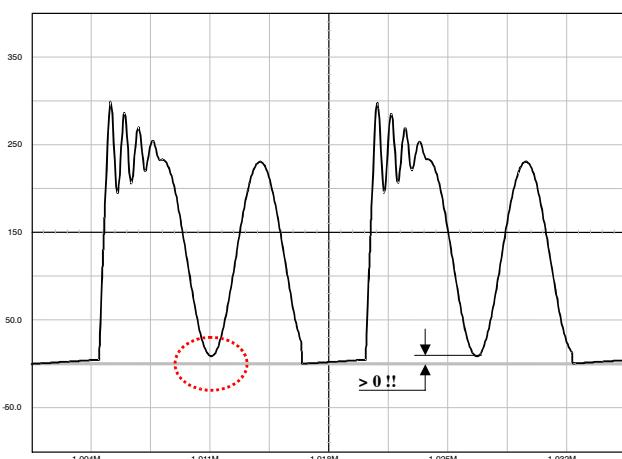

Figure 46. The Drain-source Wave Shall always be Positive
1. The lateral MOSFET body-diode shall never be forward biased, either during start-up (because of a large leakage inductance) or in normal operation as shown in Figure 46. This condition sets the maximum voltage that can be reflected during toff. As a result, the Flyback voltage which is reflected on the drain at the switch opening cannot be larger than the input voltage. When selecting components, you thus must adopt a turn ratio which adheres to the following equation:
Figure 48a: the simple capacitor limits the voltage according to the lateral MOSFET body-diode shall never be forward biased, either during start-up (because of a large leakage inductance) or in normal operation as shown by Figure 46. This condition sets the maximum voltage that can be reflected during t_{off} . As a result, the flyback voltage which is reflected on the drain at the switch opening cannot be larger than the input voltage. When selecting components, you must adopt a turn ratio which adheres to the following Equation 3. This option is only valid for low power applications, e.g. below 5 W, otherwise chances exist to destroy the MOSFET. After evaluating the leakage inductance, you can compute C with (Equation 4). Typical values are between 100 pF and up to 470 pF. Large capacitors increase capacitive losses...